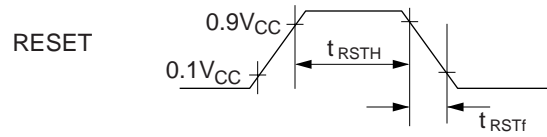

**Figure 50 Interrupt Timing**
- Refer to figure 50. The  $t_{cyc}$  unit applies when the MCU is in standby or active mode. The  $t_{subcyc}$  unit applies when the MCU is in watch or subactive mode.  $t_{subcyc} = 244.14\text{ }\mu\text{s}$  (32.768-kHz crystal)